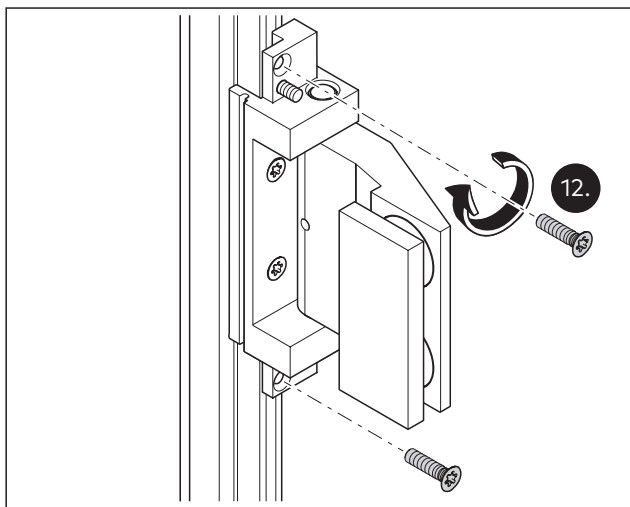

Fig. 39 Temporarily attach the door hinge at the top and bottom
12. Temporarily attach the door hinge with 2 screws through the outer drill holes in the base profile for the door frame (Fig. 39).